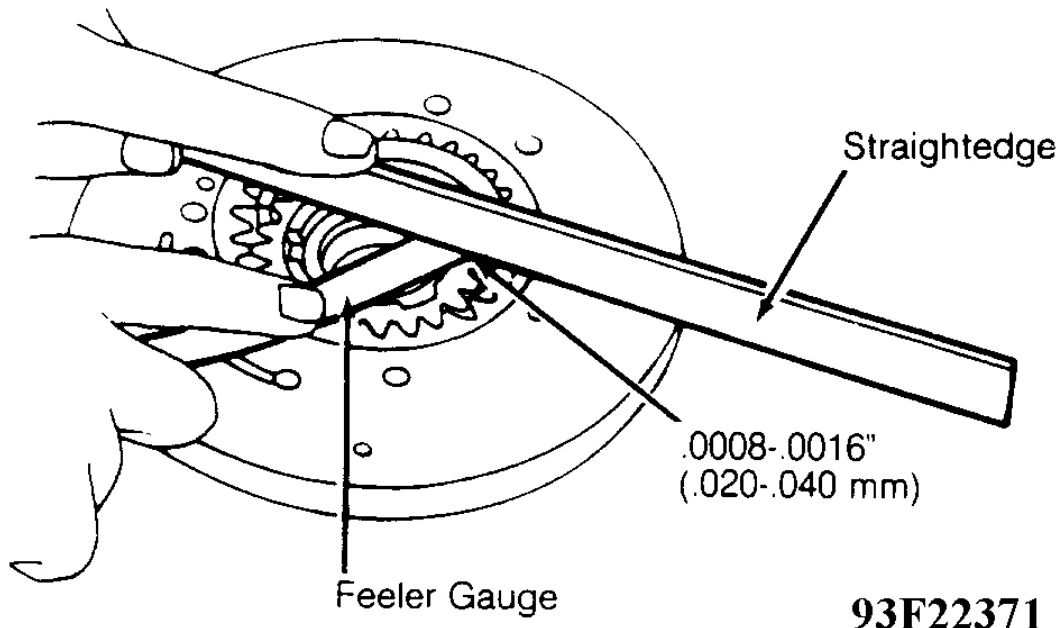

Fig. 10: Measuring Oil Pump Housing-To-Gear Face Clearance
1. Check oil pump shaft, and ring groove areas of pump housing for wear. Inspect parts for visible signs of wear or damage. Using straightedge and a feeler gauge, check pump housing face-to-gear face clearance. See **Fig. 10**.